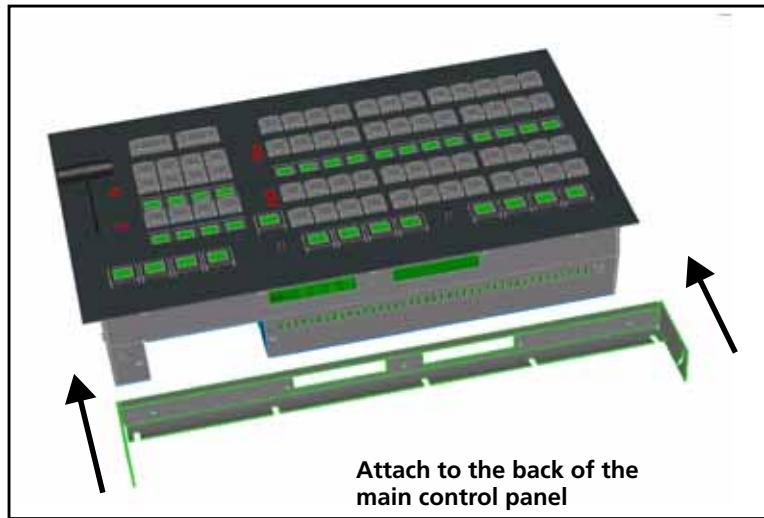

Figure 2-5 Audio Control Panel Mounting Bracket
- 4 Attach the audio control panel mounting bracket to the back of the main control panel, using the screws provided (see Figure 2-5).